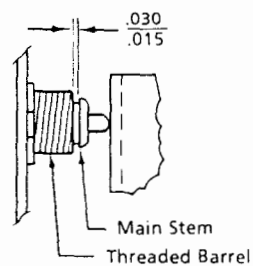

Fig. 11 — Motor cutoff switch adjustment
9. Before applying control voltage to your breaker, verify that the motor cut off switches are properly adjusted. Charge the closing spring as described in Step 7 (roller resting on prop). Adjust the motor cut off switches so that they are depressed to the point where the main stem of each switch is located .015" minimum to .031" maximum from the threaded barrel, see Fig. 11.
10. Before applying control voltage to your breaker, verify that the motor cut off switches are properly adjusted. Charge the closing spring as described in Step 8 (roller resting on prop). Adjust each motor cut off switch so that they are depressed to the point where the main stem of the switch is located .015 minimum to .031 maximum from the threaded barrel, see Figure 11.